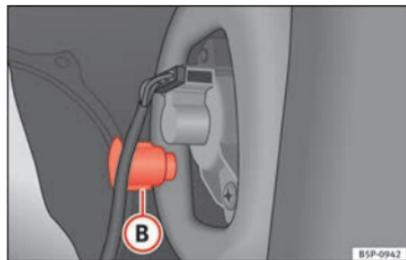

Fig. 191 Side lights and brake lights
- Unscrew the plastic fitting ⇒ Fig. 191 **B** securing the tail light. Inserting a screwdriver under the plastic fitting may help to loosen it.